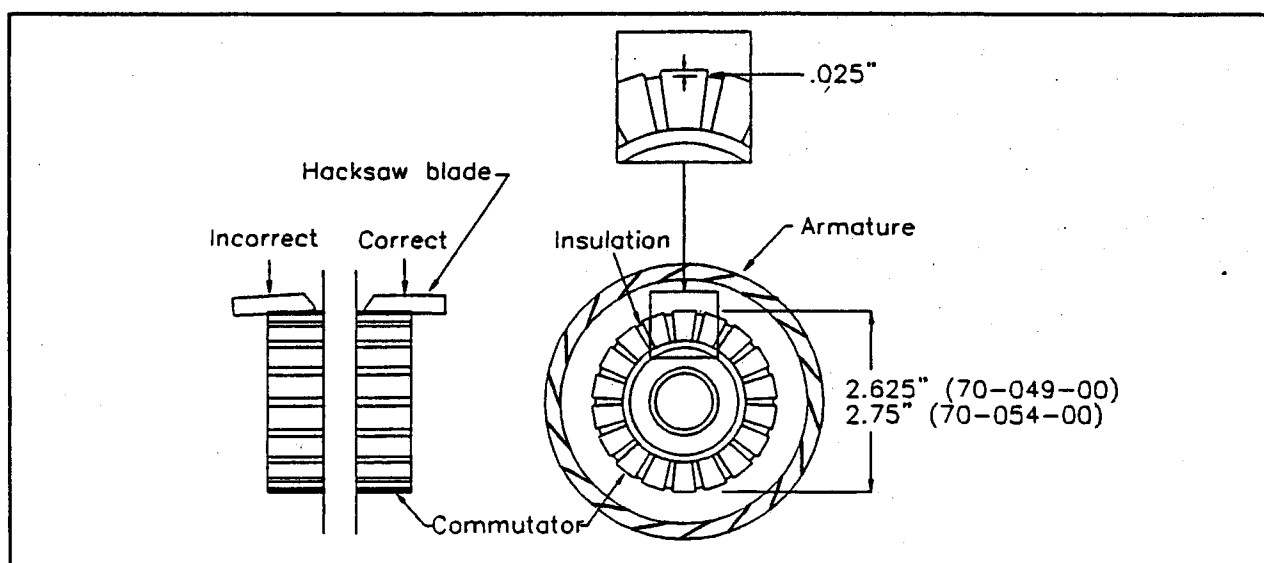

Figure 3-14
- Measure the undercut on the commutator. If it is less than .025", then the mica must be undercut (see figure 3-14).
- Measure the commutator diameter. If it is less than the minimum operational diameter, then the armature is worn out and the motor must be replaced (see figure 3-14).